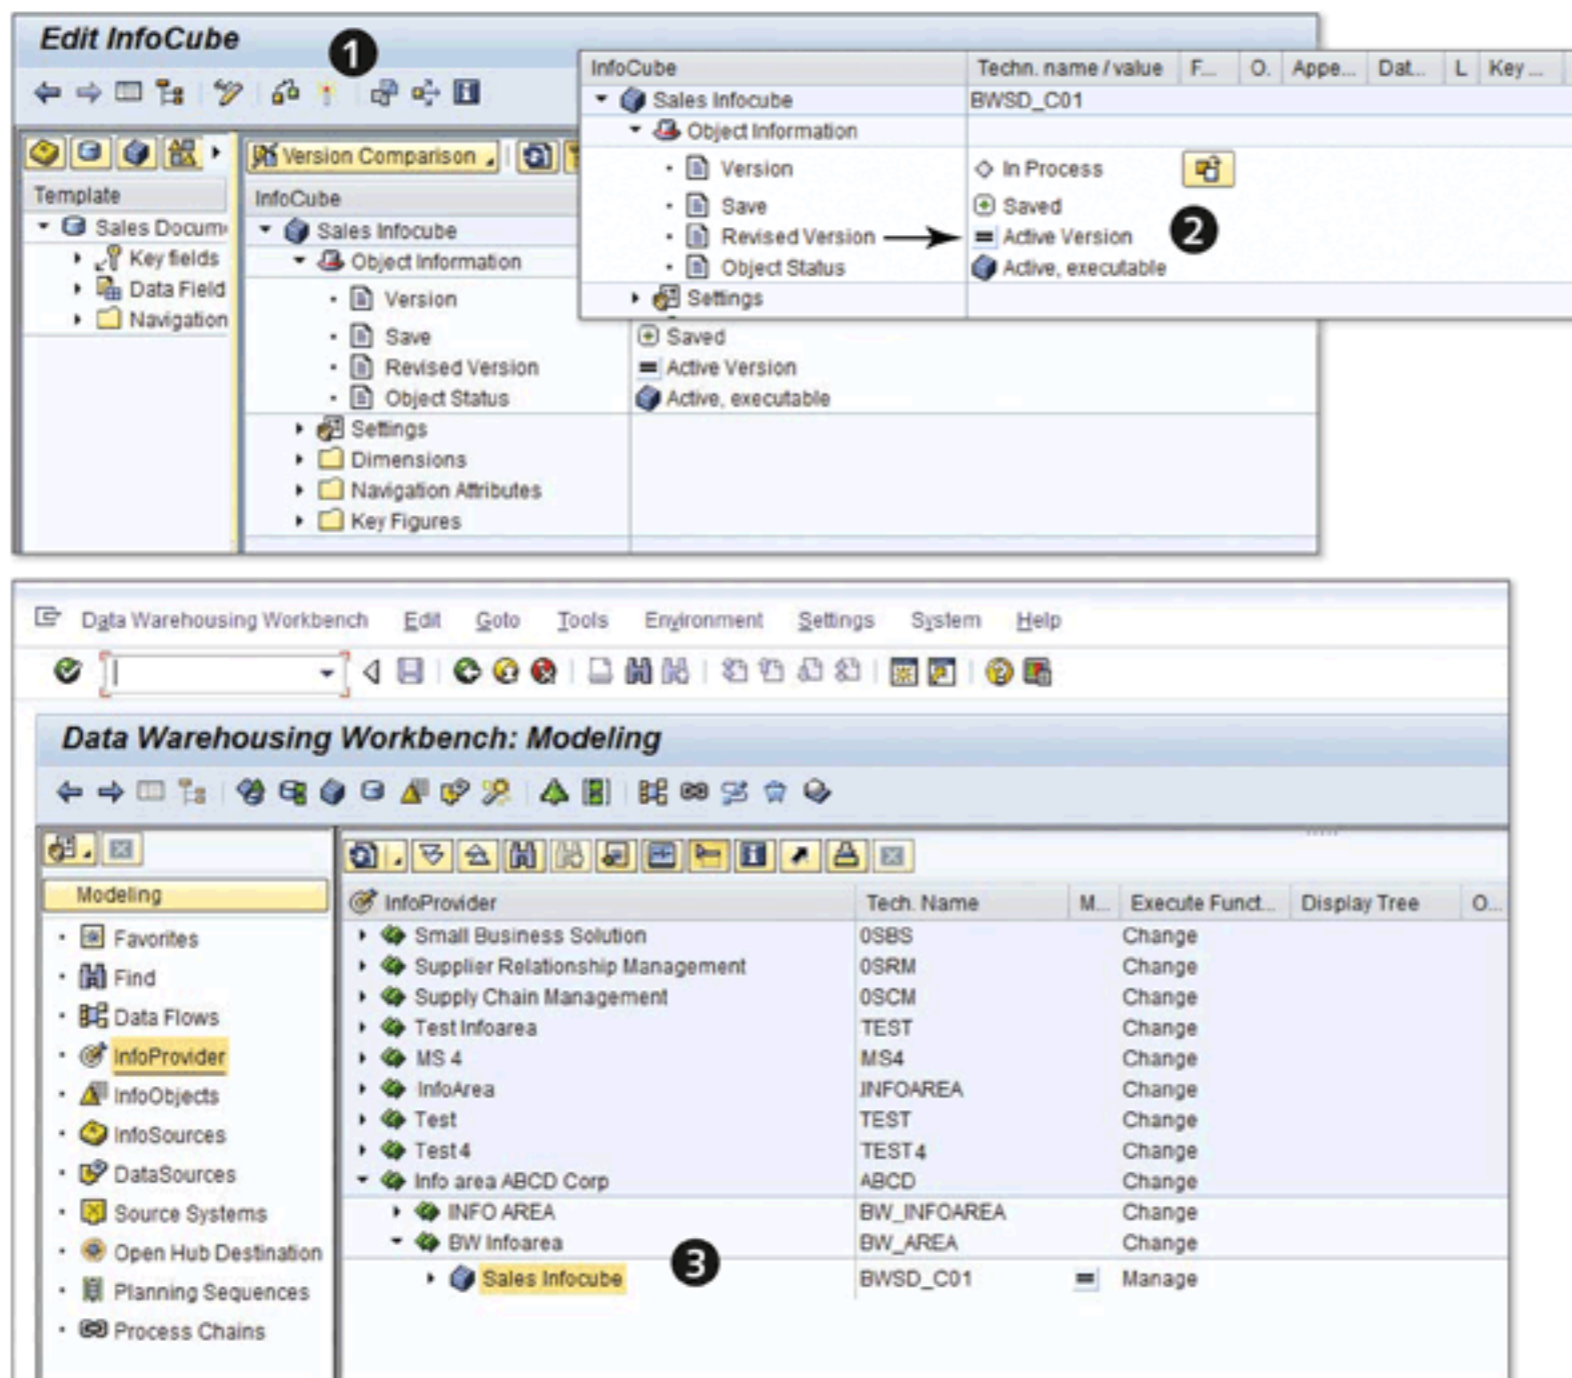

Figure 5.22 Activating the InfoCube
The InfoCube design is now ready, and you can check its definition using the CHECK icon (🔍) on the dynamic menu bar. If no inconsistencies are found, the system gives a message that reads INFOCUBE BWSD_C01 IS CONSISTENT, which appears on the status bar. This means that you can activate the InfoCube definition using the ACTIVATE icon (🔑) (❶ of Figure 5.22).
The activated BWSD_C01 InfoCube can be seen under the BW_AREA InfoArea, as shown in ❸ of Figure 5.22.